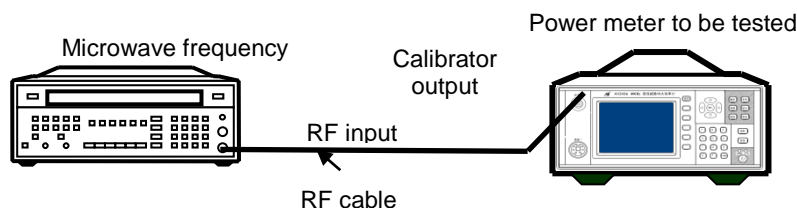

Fig. 8.3 Calibrator Frequency Accuracy Test Block Diagram
- 1) Connect the device as shown in Fig. 8.3. Warm up the instrument for at least 30 min.